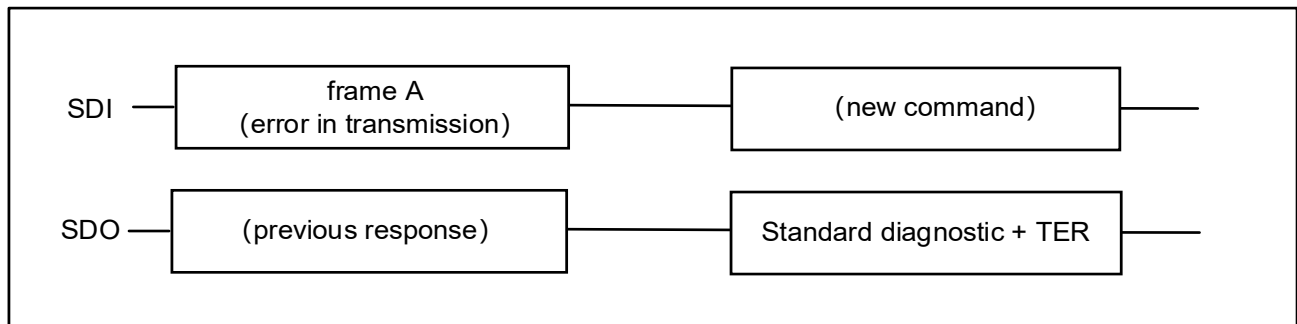

Figure 10.8 NSD56602 response after an error in transmission
- In case an error in transmission happened during the previous frame (for instance, the clock pulses were not multiple of 8 with a minimum of 16 bits), shown in **Figure 10.8**